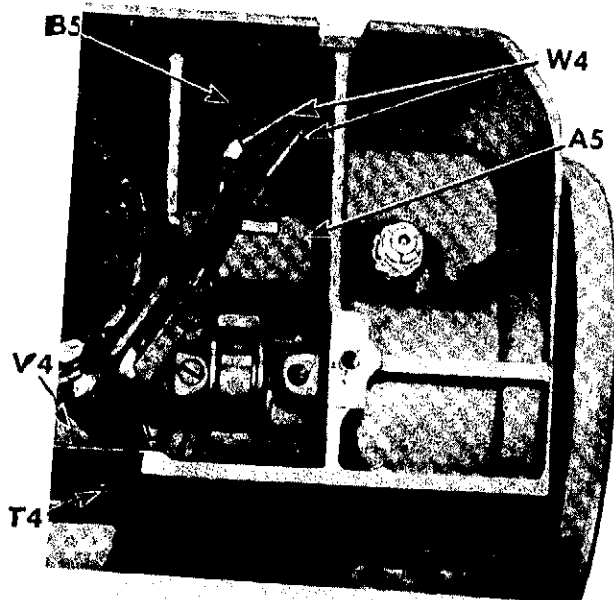

Fig. 304. Wiring at Top of Arm
4. Remove two wire connectors **W4**, **Fig. 304** and disengage light fixture wire from motor leads.
5. Lift oil shield **A5**, **Fig. 304** from arm casting.
6. Remove screw **T4** and lead clip **V4**, **Fig. 304**, **page 147**.
3. Replace lead clip **V4** and fasten with screw **T4**, **Fig. 304**.
4. Replace oil shield **A5**, as shown in **Fig. 304**, **page 147**.
5. Connect one light fixture lead to each of the motor leads and cap with wire connectors **W4**, as shown in **Fig. 304**.